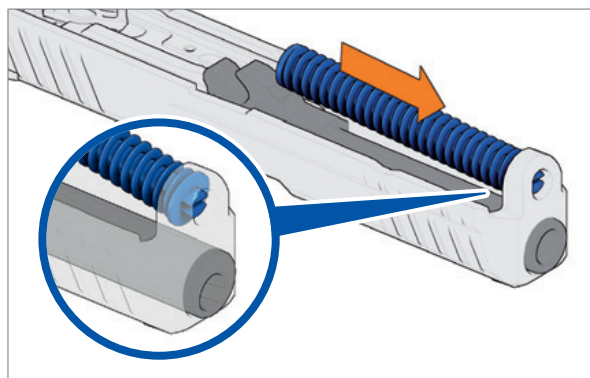

Fig. 54: Insert recoil spring
3. Insert recoil spring into slide (*Fig. 54*).